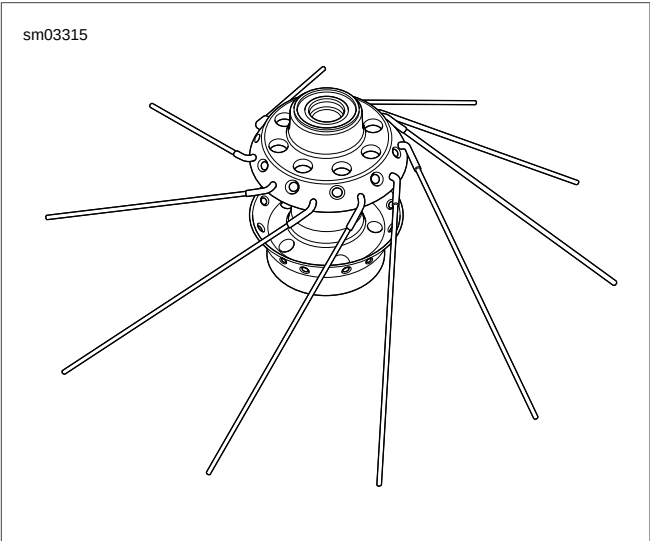

Figure 2-44. Spokes in Lower Row
1. See Figure 2-44. Place the hub on table with primary brake disc side down. Insert a spoke in each hole of the **lower** row. Angle spokes clockwise.